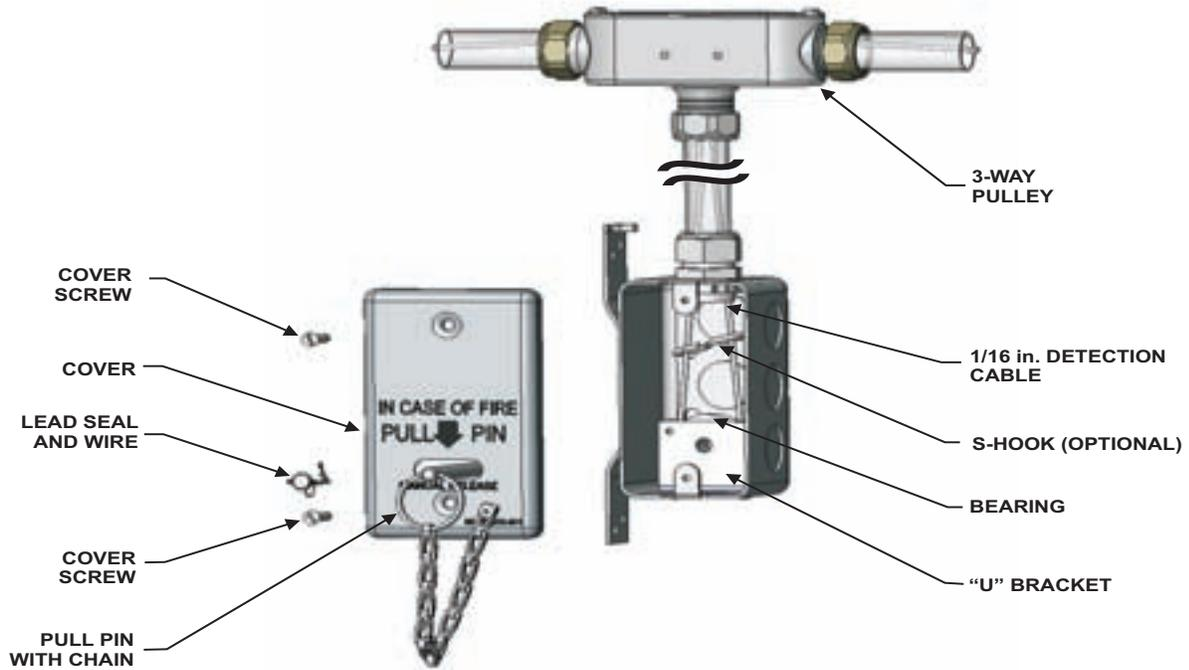
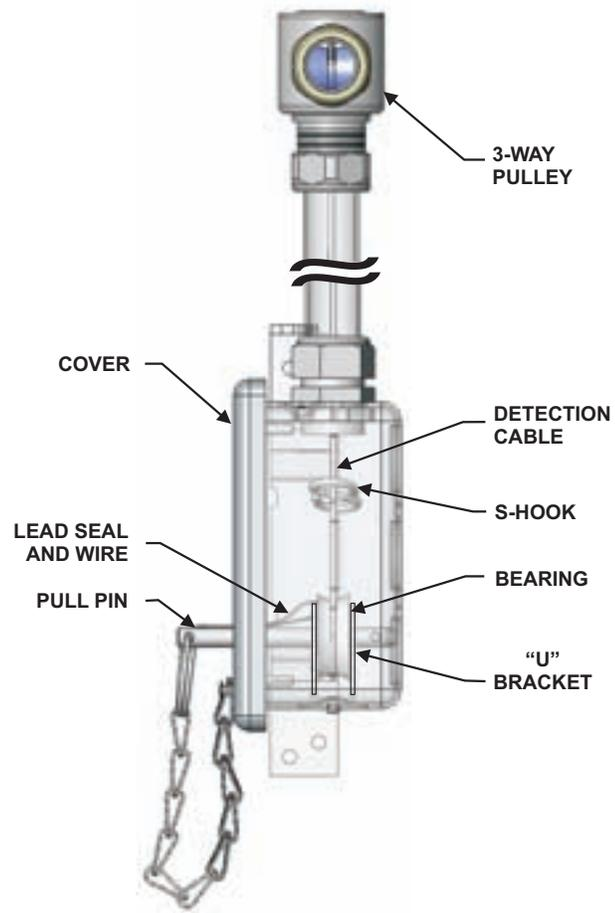

Figure 4-67. Recess Mounted In-Line Remote Manual Control, P/N 9197461
Figure 4-68. Recess Mounted In-Line Remote Manual Control (Side View), P/N 9197460
**Note:** A 3-Way Pulley (P/N 9197602) CANNOT be used to operate dual gas valves. Only one (1) 3-Way Pulley can be used in a given detection system and must be counted as two (2) Corner Pulleys.
**Note:** To prevent the cable from going up into the conduit, it is permissible to use an optional S-hook as shown in Figure 4-67 and Figure 4-68.